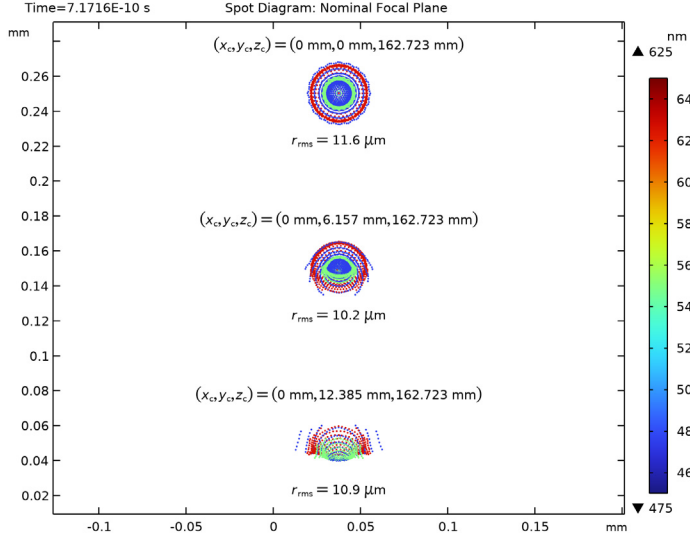
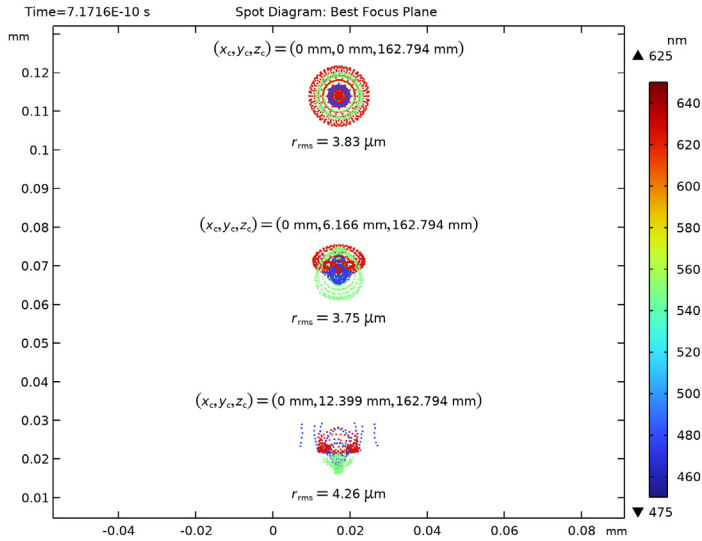

Figure 5: The image quality on the nominal image surface. This is the detector surface after being subject to thermal expansion.
Figure 6: Image quality on the best focus plane. That is, this is the surface that gives the minimum RMS spot size on-axis.
The image quality on the nominal and “best focus” image planes is shown in Figure 5 and Figure 6. When compared with a model not using hyperelastic effects (that is, Petzval Lens STOP Analysis) it can be seen that the image planes are shifted by  $3 \mu\text{m}$  and  $2 \mu\text{m}$  when comparing the nominal and best focus image planes respectively. This suggests that the hyperelastic material properties have a small, but not insignificant impact on the model.
Click the  **Zoom Extents** button in the **Graphics** toolbar. The nominal image surface spot diagram should look like Figure 5.
- 7 Click the  **Zoom Extents** button in the **Graphics** toolbar. The best focus spot diagram should look like Figure 6.